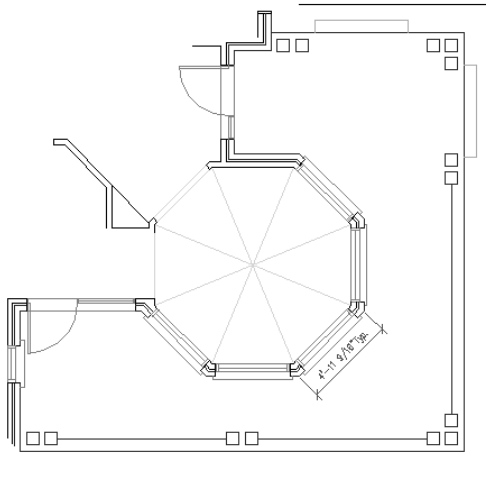

Figure 14-10: The house plan with an aligned dimension.
4. Save your drawing. It should look like Figure 14-10.